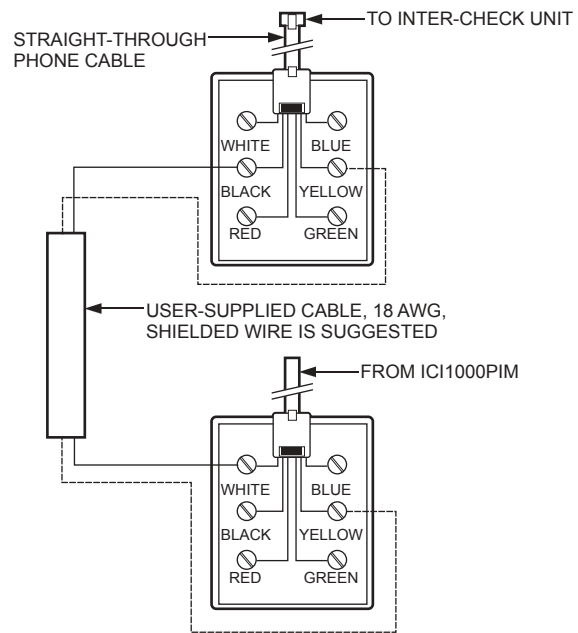

Figure 2. Configuration for Wiring ICI1000PIM Module
- b. If the Inter-Check and the PIM are more than 6 feet (1.8 m) apart, you must use the wiring kit. Refer to Figure 2. The wiring kit is supplied with the IC11000SE and IC11000SI.